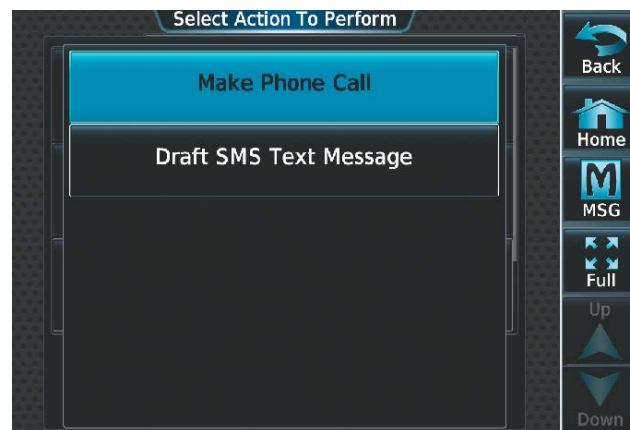

Figure 8-63 Select Action To Perform
- 3) Touch the **Call or Send Text** Button. A selection screen, as shown in Figure 8-63, is displayed.